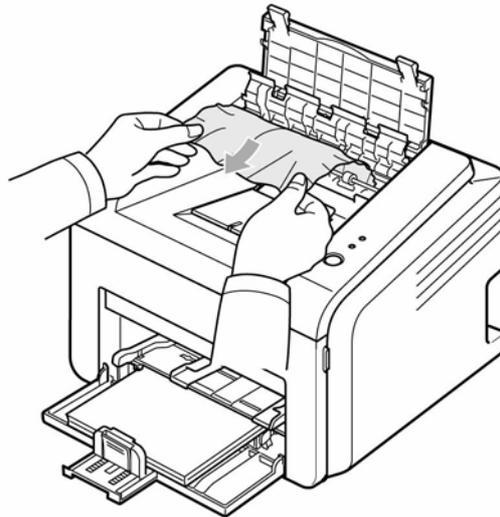

Figure 3
4. Loosen the jammed paper if it is caught in the heat roller, PL 3. Gently pull the jammed paper out, Figure 3.